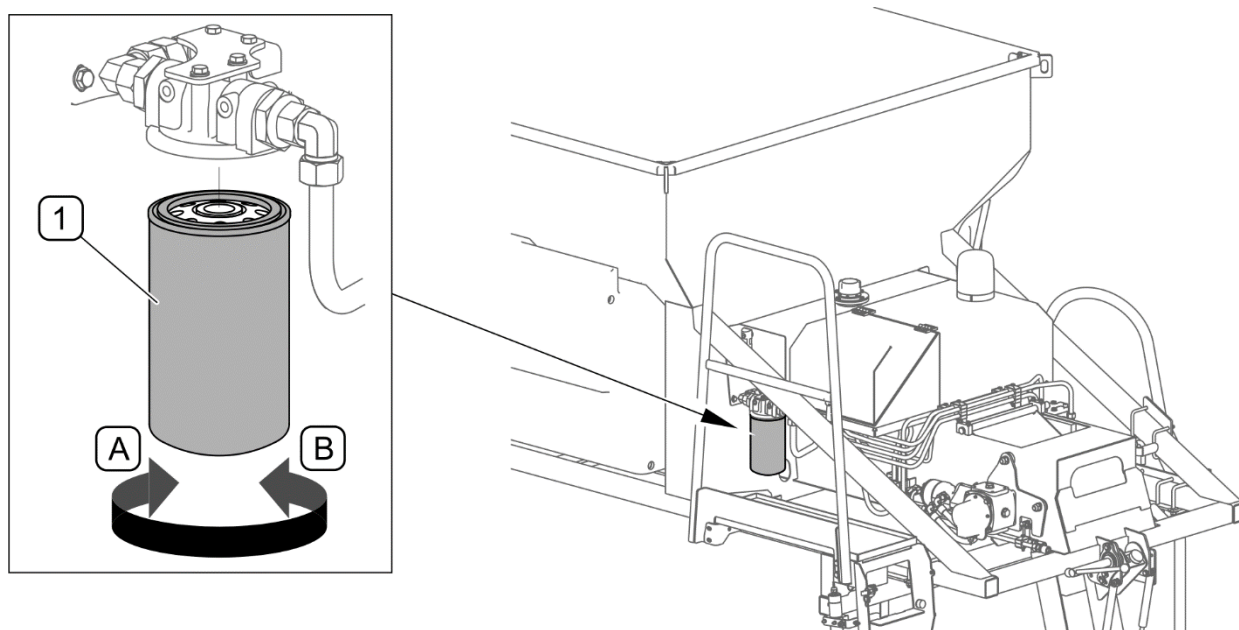
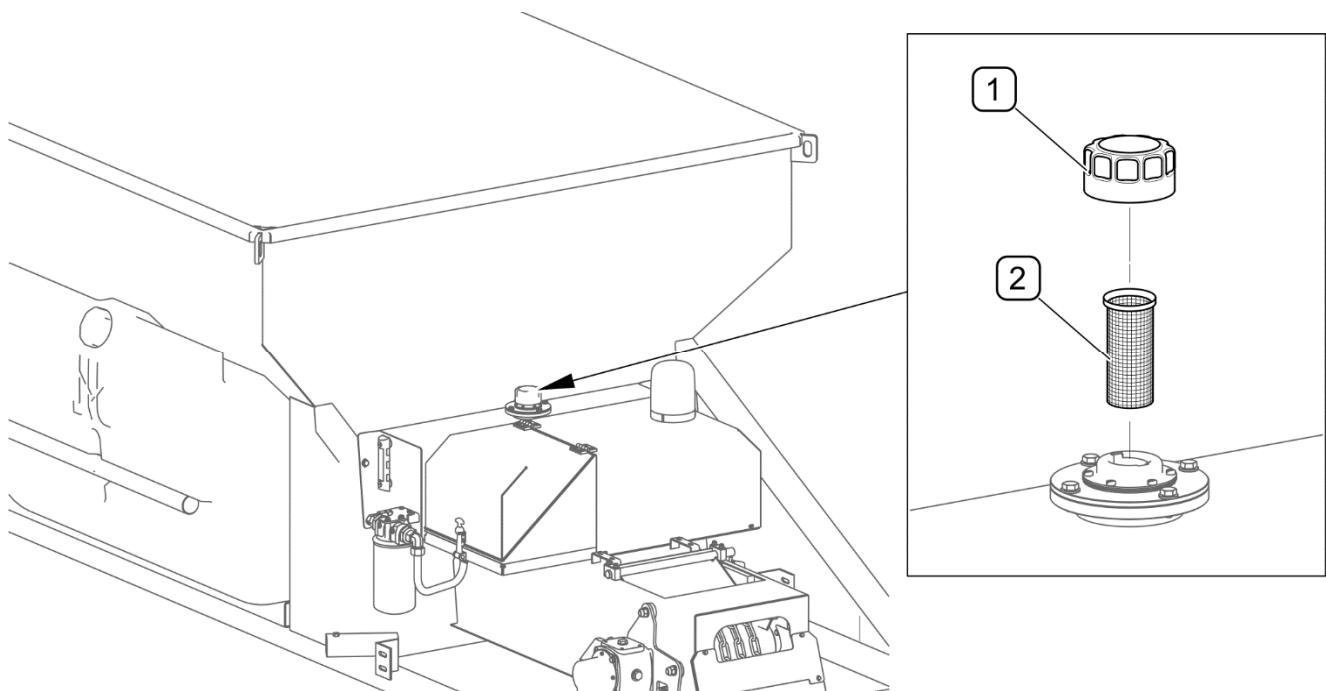

FIG. 5.3 Replacement of oil filter
FIG. 5.4 Inlet filter
Each time when changing oil, replace also oil filter (FIG. 5.3) and clean cartridge of oil inlet filter (strainer) (FIG. 5.4).
(1) - oil filter; (A) - filter unscrewing direction; (B) - filter tightening direction
Oil filter (1) in hydraulic system should be periodically replaced (FIG. 5.3). Before installing a new filter, oil the gasket surface (2). The hydraulic system is vented automatically during machine operation.
Replaceable oil filter with part number of CCA 301 is installed in the hydraulic system. When replacing oil filter, oil the filter gasket surface. The filter (FIG. 5.3) should be screwed in by hand.
Inlet filter (FIG. 5.4) is located inside inlet opening and should be inspected and cleaned periodically. Unscrew cap (1), take out mesh filter cartridge (2) and clean in washing agent. Assemble the complete unit performing the above activities in reverse sequence.
Inlet filter (FIG. 5.4) should be cleaned at every oil change.